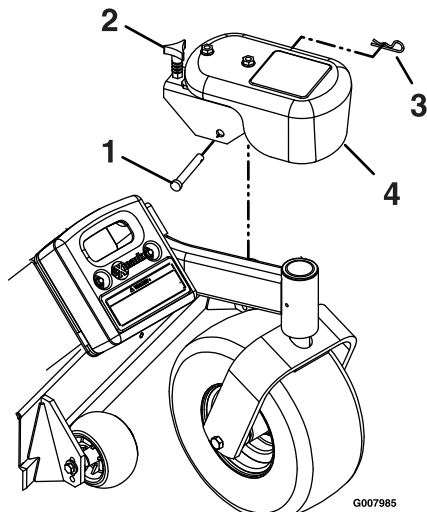

Figure 23
- A. Install the removable caster weights over the caster arms (see Figure 23).